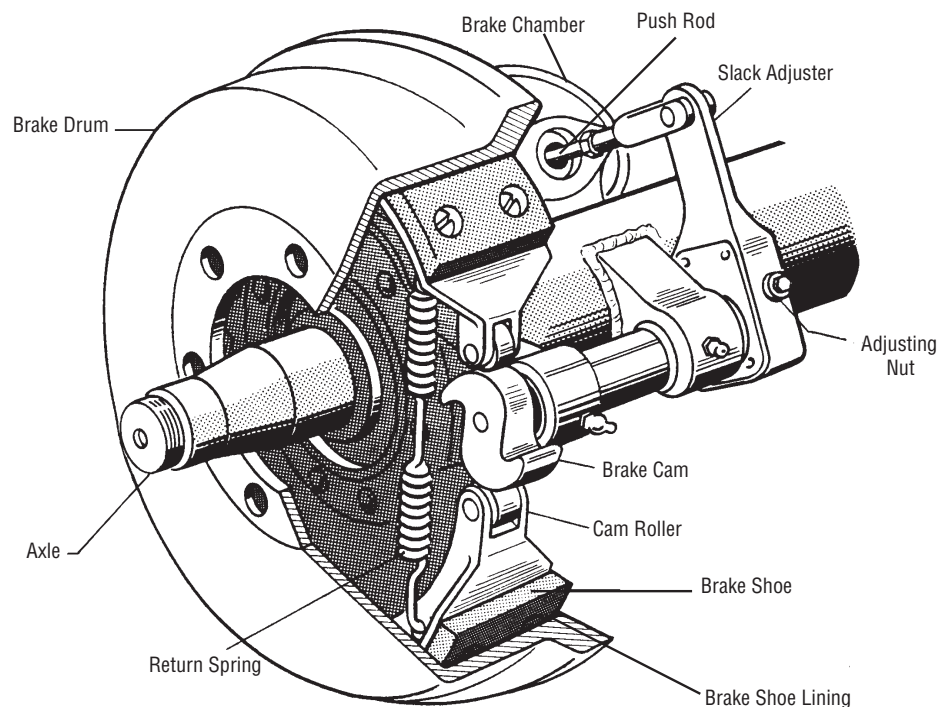

Figure 5-2 S-cam Air Brake
Drum brakes (foundation brakes) may be used at each wheel. The most common type is the S-cam drum brake (so called because of its shape) shown in Figure 5-2.
**S-cam brakes.** When you push the brake pedal, air is let into each brake chamber (Figure 5-2). Air pressure pushes the rod out, moving the slack adjuster, thus twisting the brake cam shaft. This turns the S-cam. The S-cam forces the brake shoes away from one another and presses them against the inside of the brake drum. When you release the brake pedal, the S-cam rotates back and a spring pulls the brake shoes away from the drum, letting the wheels roll freely again.